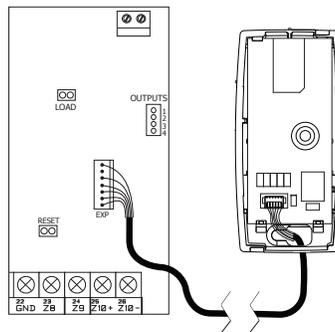

Figure 2: 763 to an XT Series Control Panel
4. Route the other end of the cable through the 763 cut-out then through the panel enclosure box, and connect it to the EXP header on the panel. See Figures 2 and 3.